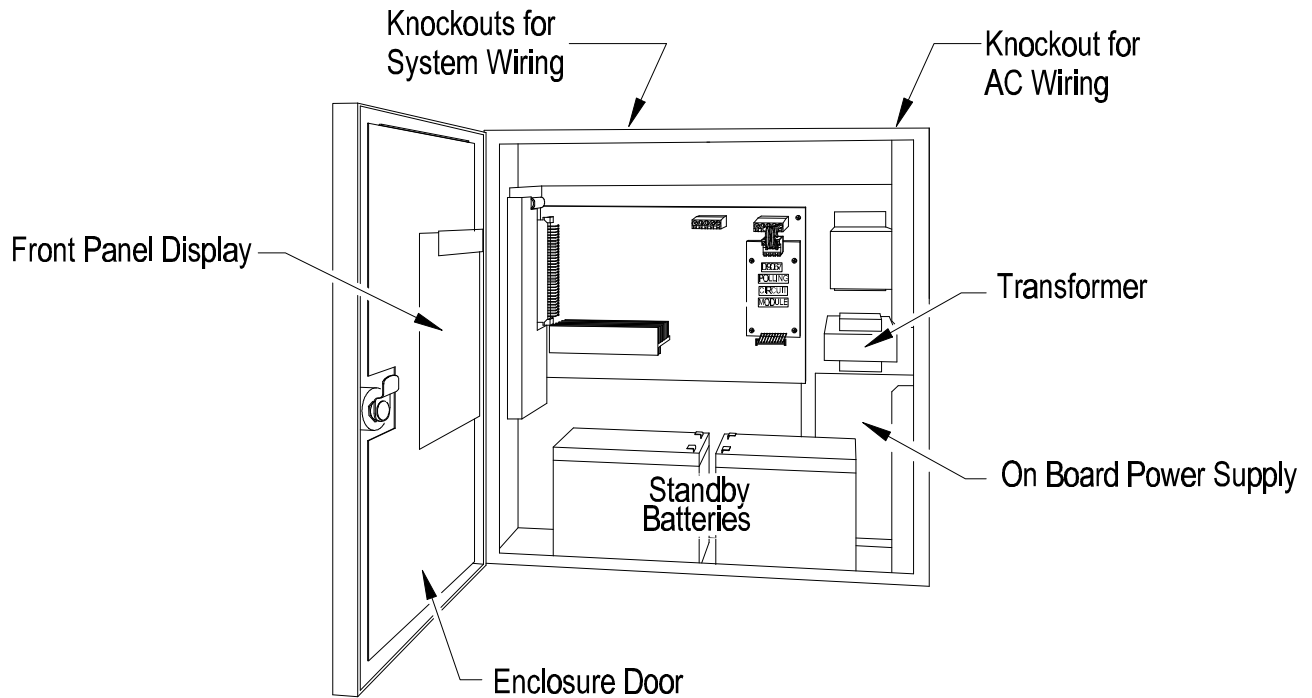

Figure 20: Standby Battery Installation
- Place the batteries in the enclosure as shown in Figure 20.